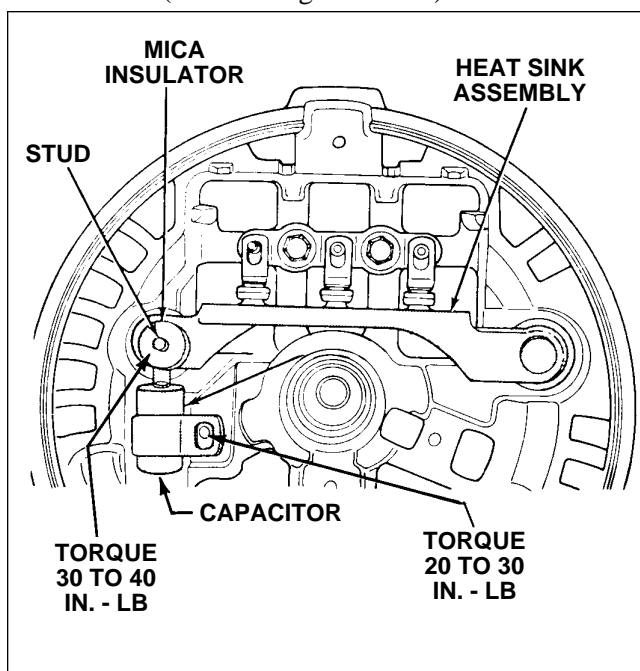

Figure 24-38. Installation of Chrysler Alternator Capacitor
- k. Install positive heatsink nut and lockwasher, and tighten to a torque of 20 to 30 inch-pounds. (Refer to Figure 24-38.)